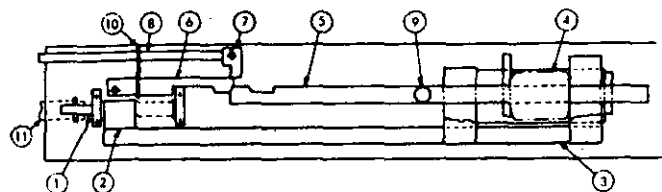
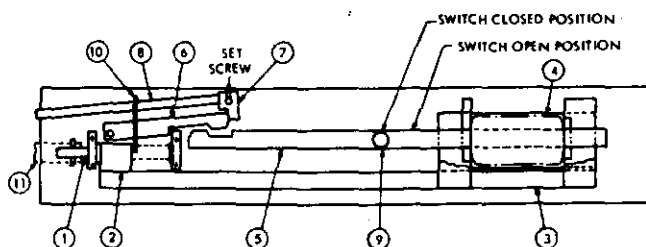

Fig. 23 - Switch in open position, with springs charged.
Fig. 24 - Switch in closed position, with springs discharged and trip lever depressed.
After the springs are fully charged, the charge check plate (10) will clear the charging nut (2) and permit trip lever (8) to be depressed. This condition is shown in Fig. 23. Trip cam (7) will then rotate counterclockwise, permitting locking lever (6) to rise. With no restraint on the spring shaft (5), the charged springs will discharge, driving the spring shaft to the left. This force is then transmitted to the switch blades through connection on output pin (9). Figure 24 illustrates this condition.
The opening operation follows the same sequence. With the switch closed, the spring shaft (5) is positioned as shown in Fig. 24. The locking lever (6) will now drop and prevent travel of spring shaft (5) to the right. The trip lever (8) will rise, thus holding locking lever (6) down and drawing charge check plate (10) up above the charging nut (2). Clockwise rotation of charging screw (1) will drive charging nut (2) to the right. The charging bar assembly (3), in turn, moves to the right and compresses the springs (4) against spring shaft (5). When the springs are fully charged, charging nut (2) will be at the end of its travel to the right. Charge check plate (10) will now clear the charging nut and trip lever (8) can be
Refer to Fig. 24. Notice that the charging nut (2) must traverse the full length of the screw (1) in either direction to store maximum energy in the springs. If the charging nut stops at some intermediate position, and pressure is applied to the trip lever (8), the charging check plate (10) will strike the top of the charging nut and prevent downward movement of the trip lever.
Refer to Fig. 24.